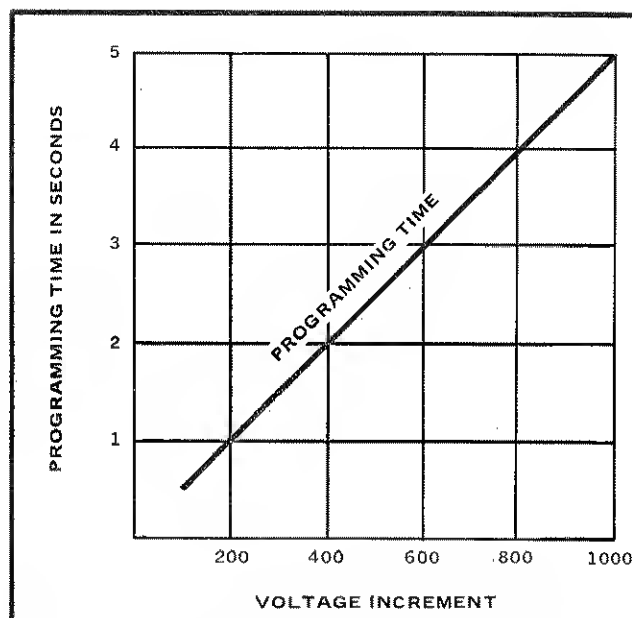

Figure 1-1. ALLOWABLE PROGRAMMING INTERVALS, 1000V RANGE AND CURRENT MODE
*When on the 1000V range, maximum repetition rate of a sequentially programmed instruction should not exceed the time intervals contained in Figure 1-1.*